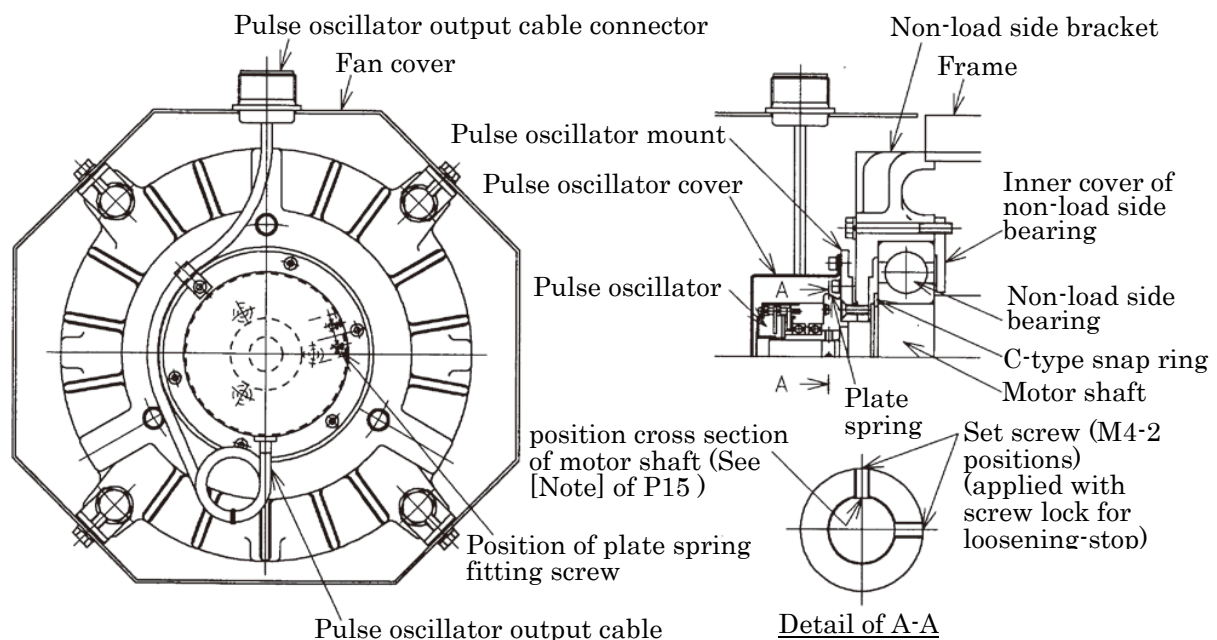
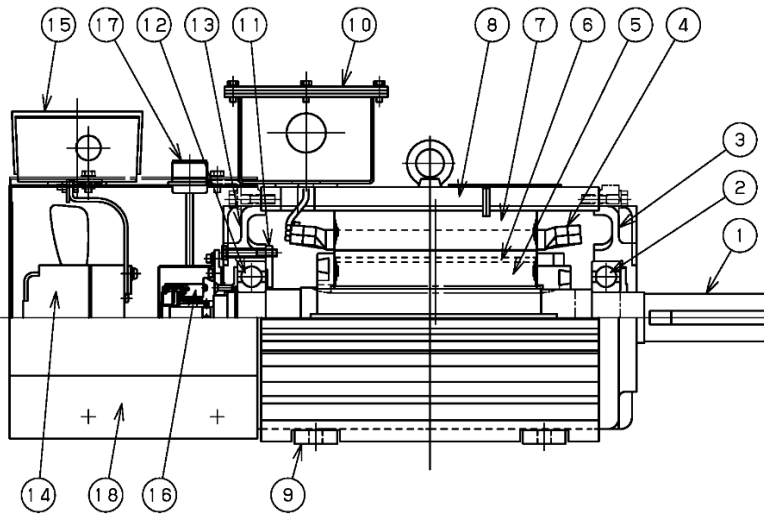

Fig. 9 Detailed drawing of non-load side pulse oscillator and bearing part
Fig.17 Structural sectioned drawing of EDM22 or less
(See Fig. 9 below and structural sectioned drawings (Fig. 17~Fig. 20)
- 2) Even for the cases of removing and re-mounting of pulse oscillator at the times of replacement, etc. of bearing or pulse oscillator, setscrew position for fixing the pulse oscillator rotor is determined to make that the magnetic pole position detection of the rotor of motor is same. As shown in Detail of A-A Cross Section of Fig. 9 of Page 12, when one of 2 positions of setscrew M4 is coincided with flat cut position of motor shaft (one position of motor shaft, where setscrew contacts, is flat surface), mount the other setscrew arranging that it surely comes to the position turned 90° to counterclockwise seen from the non-load side shaft end (position where motor shaft is not cut flatly).